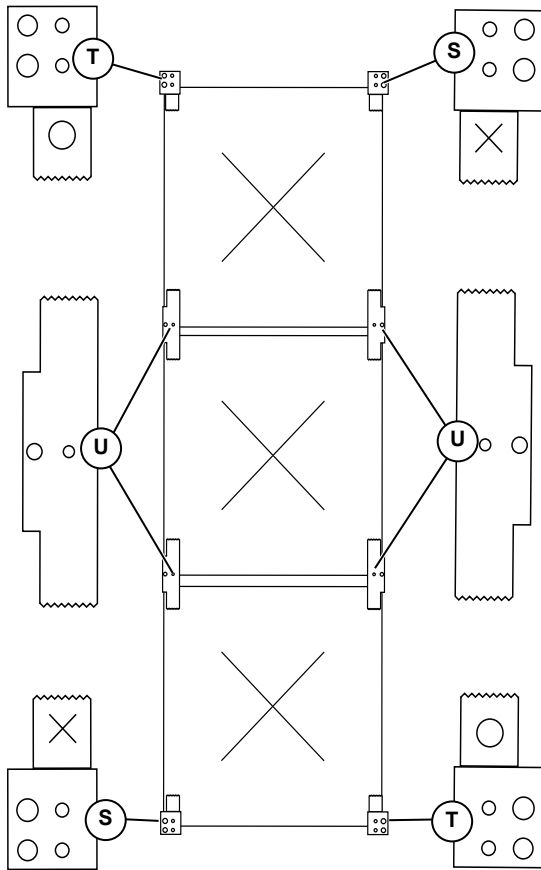

Figure 4-16. Installing Retention Clips (2 of 3)
See **Figure 4-16**. Note that there are three types of retainer clips: double retention clips (U), single retention clips marked O (T) and single retention clips marked X (S).
- Install single retention clips (T) (S) at the top and bottom of the stack.
- Install double retention clips (U) between rows of modules.